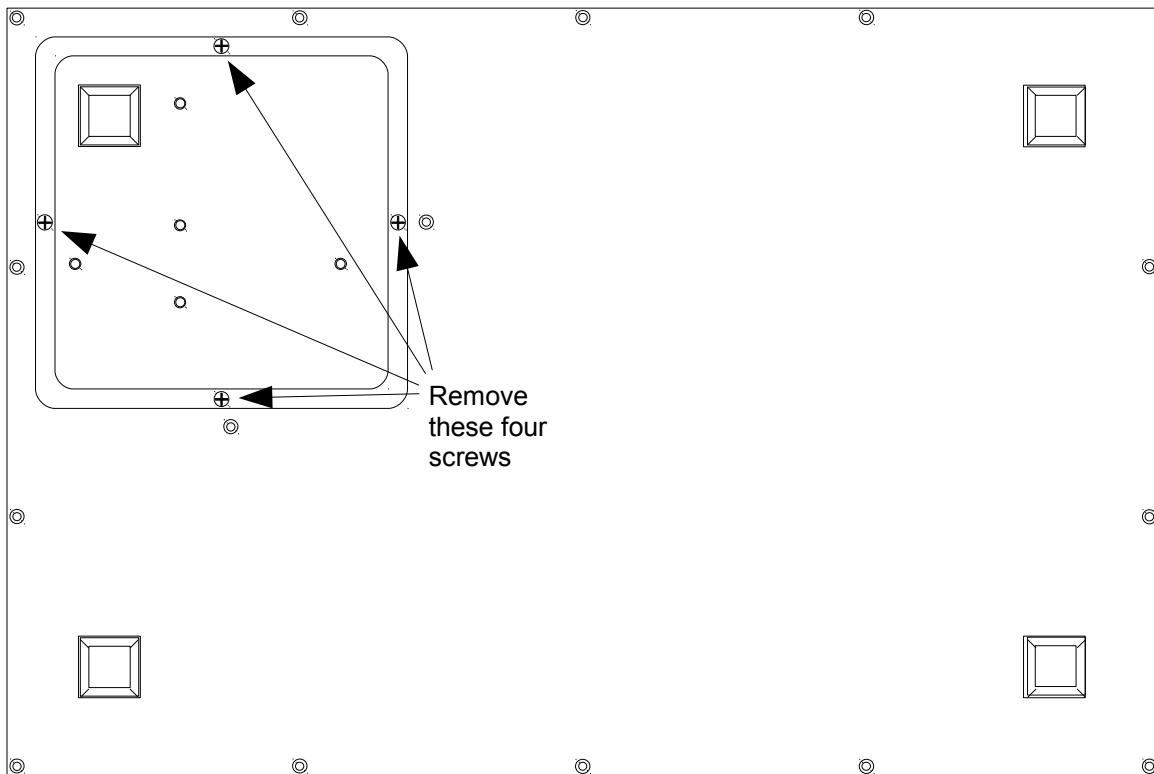

Figure 6 - Removal of the sample holder bottom plate
9. Use a #1 Philips (cross-head) screwdriver to remove the four screws holding the sample holder bottom plate to the EasyLife X bottom plate (see figure 6). Hold the sample holder bottom plate when removing the last screw, as the sample holder as it may fall away from the EasyLife.
16. Hold the solid sample holder bottom plate and slowly feed it through the hole in the EasyLife bottom plate so that the excitation and emission lens assemblies pass in front of their respective filter holder brackets. The rubber foot on the sample holder bottom plate should be close to the corner of the EasyLife bottom plate (see figure 6).
37. Hold the sample holder assembly bottom plate and slowly feed it through the hole in the EasyLife bottom plate so that the excitation and emission lens assemblies pass in front of their respective filter holder brackets. While doing so, push the stirrer cable and coolant hoses inside the sample compartment. The rubber foot on the sample holder bottom plate should be close to the corner of the EasyLife bottom plate (see figure 6).